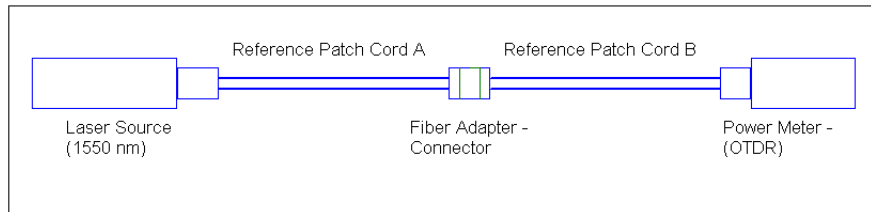

Figure 2.2: Two Patch Cords and Adapter
3. Connect the two patch cords together via the provided adapter and take the power output ( $P_{total}$ ) reading of the system. (See Figure 2.2).